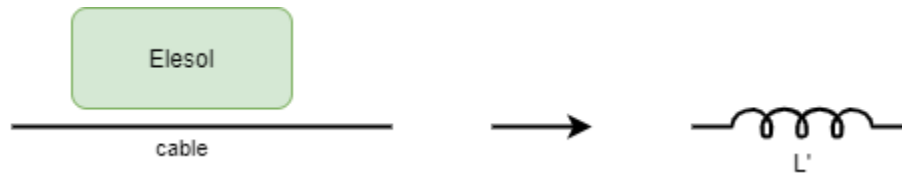

Figure 7: Elesol equivalence for noises above 150kHz and below 6MHz.
- 2) **150 kHz < Frequency < 6MHz:** in this frequency range, the reactance $X_L = 2\pi\nu L'(\nu)$ is the dominated part in the impedance $Z(\nu)$ (inductive region) as shown in Figure 7. In this case, part of noises will be reflected back into the cable by Faraday's law (electromagnetic induction) as current change. At this time, not all of the magnetic flux energy is returned to current energy, and some may lose as the magnetic loss (hysteresis loss). This loss results in some filtering but the amount of filtering could be negligible.